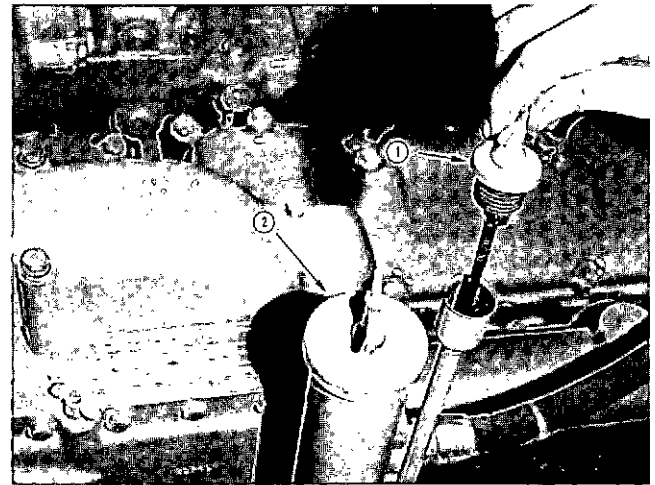

Fig. 5-1, V40736. Lubricating oil filler tube
Check for evidence of external oil leakage. Tighten capscrews, fittings, connections or replace gaskets as necessary to correct. Check oil dipstick (1, Fig. 5-1) and filler tube caps (2). See that they are tightened securely.
1. Check oil level with dipstick oil gauge located on the engine. For accurate readings, oil level should not be checked for approximately 30 minutes after engine shutdown. Keep dipstick with the oil pan with which it was originally shipped. Keep oil level as near "H" mark as possible. Fig. 5-1.